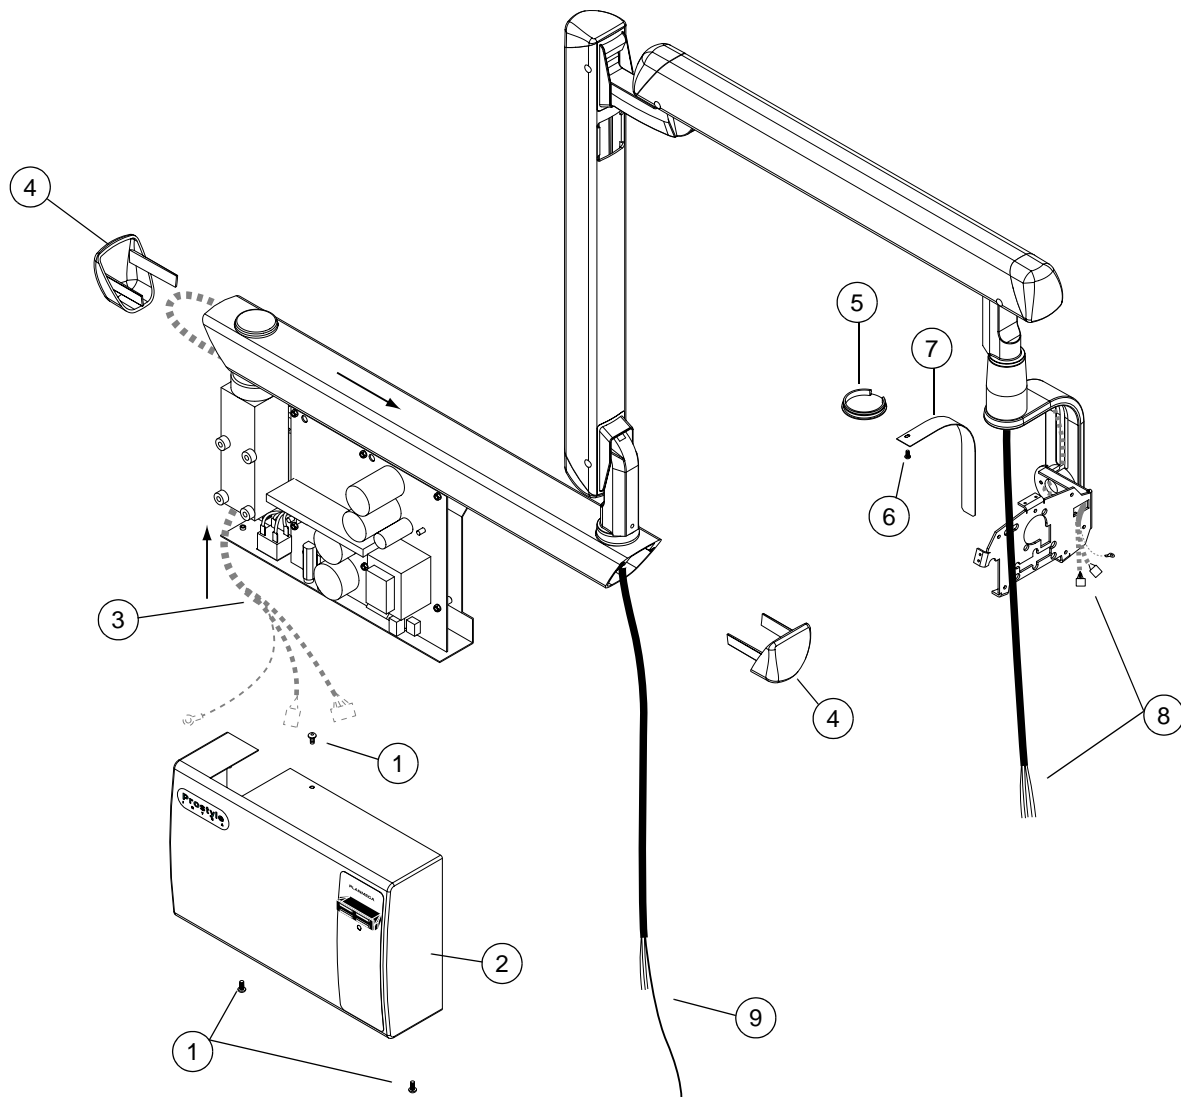

Figure 9
- b) Unscrew the three M4x8 ISO 7380 screws (Fig. 9, 1) and remove the generator cover (Fig. 9, 2).
- c) Disconnect the arm cable connectors from the Generator PCB (terminals P1 and P8). Detach the grounding lead of the arm cable. (Fig. 9, 3).
- d) Remove the extension arm cover plugs (Fig. 9, 4).
- f) Detach the plug of the tube head support (Fig. 9, 5).
- g) Unscrew the M3x6 ISO 7380 screw of the tube head support (Fig. 9, 6) and remove the cover plate of the tube head support (Fig. 9, 7). The plate is attached with double-sided adhesive tape.
- h) Cut off the connectors from the tube head end of the arm cable push the cable through the support frame (Fig. 9, 8).
- i) Cut off the connectors from the generator end of the arm cable. The grounding lead should be left longer than the other leads (Fig. 9, 9).